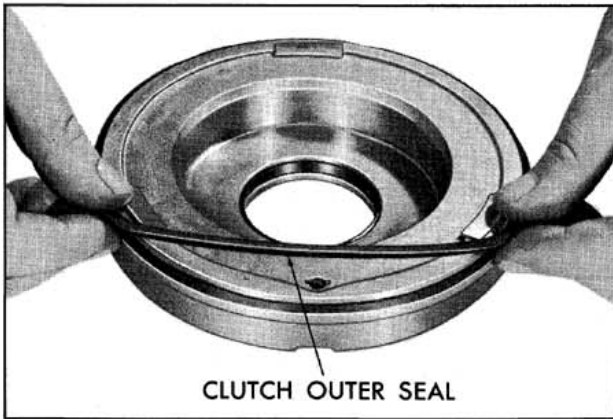

Fig. 6-156 Removing Piston Outer Seal
8. Remove the outer seal from the piston. (Fig. 6-156)